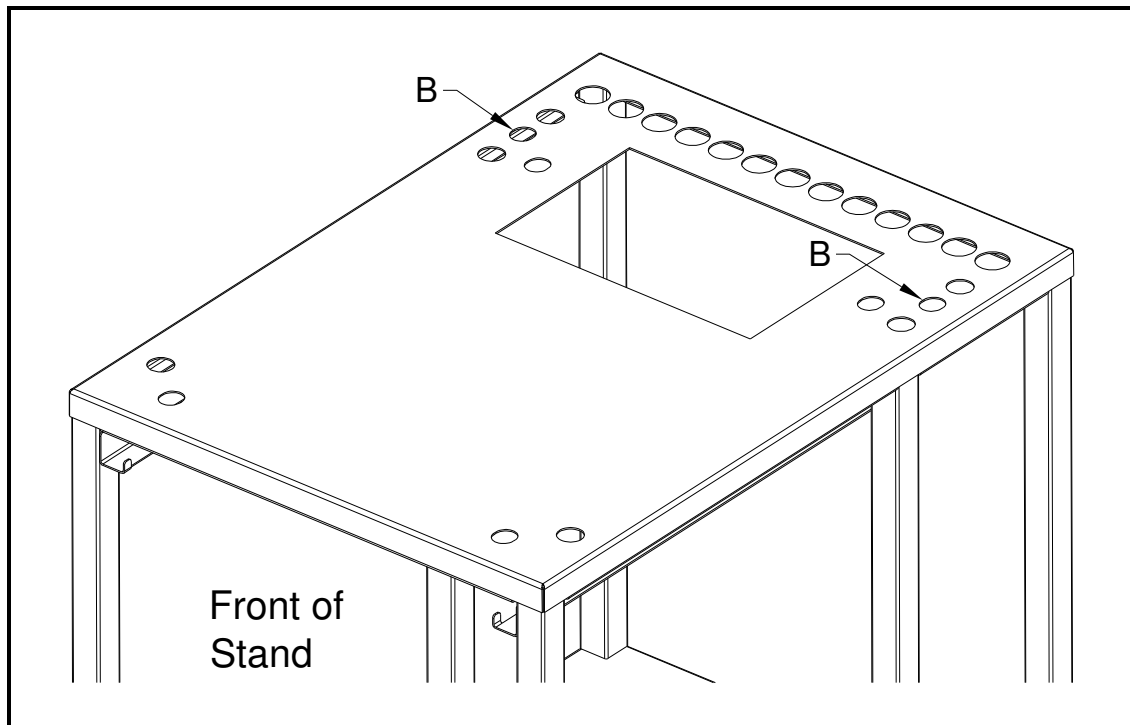
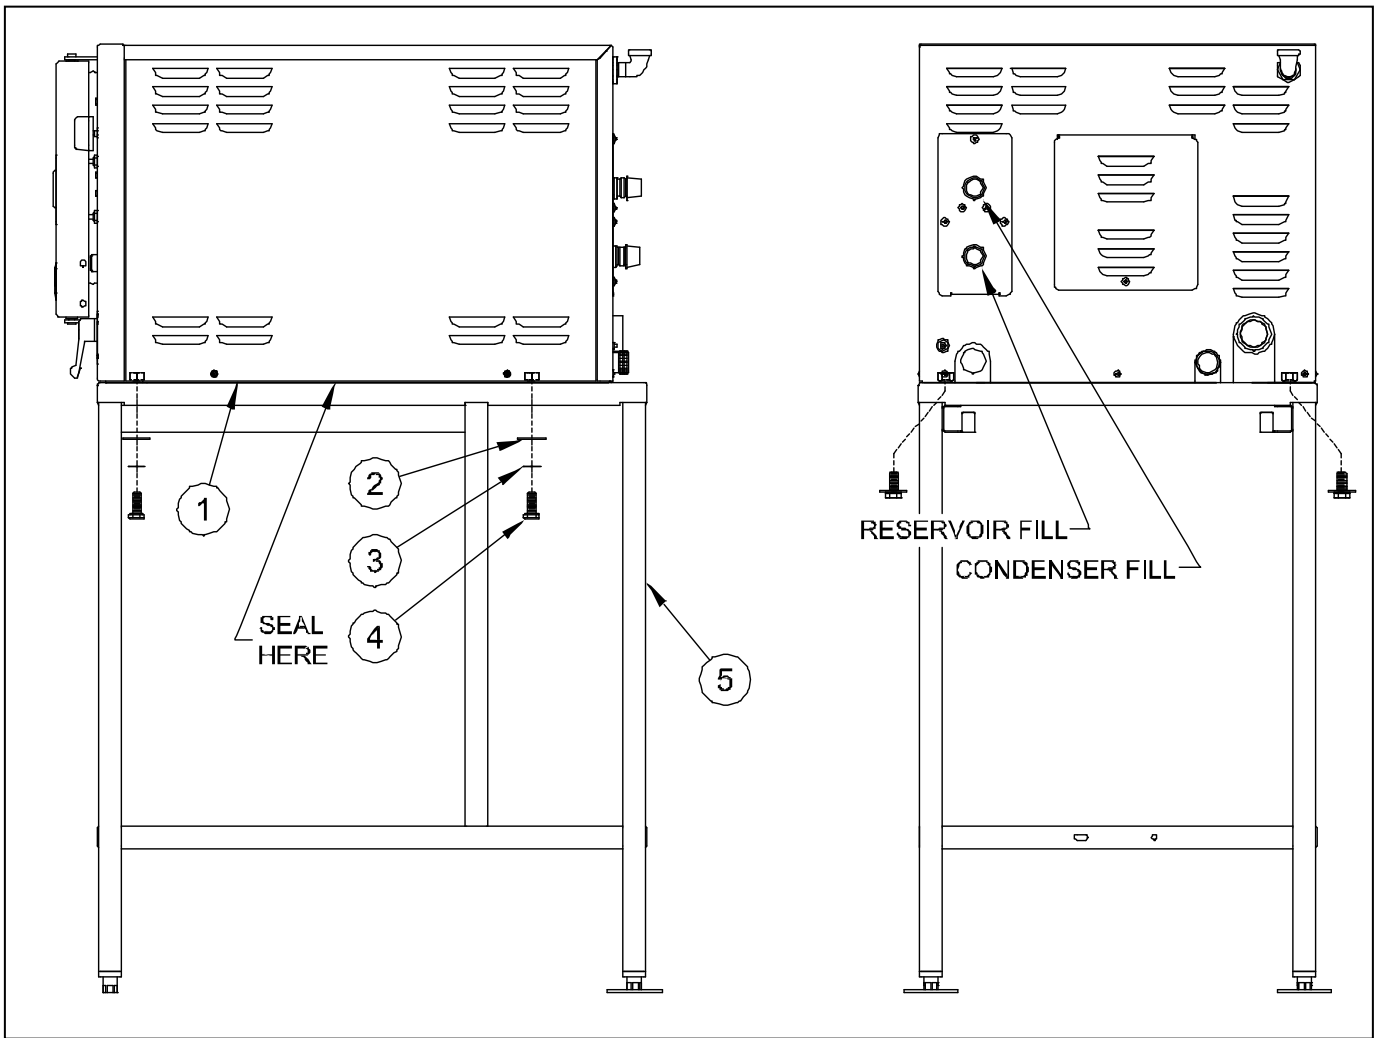

Figure 5
Figure 6
2. Set steamer directly on stand as shown in Figure 6 on the next page (4-inch legs provided with steamer are not used when installing Electric SteamChef™ steamers on a stand). Align steamer so that rear mounting bolts will come up through holes marked “B” in Figure 5 below.
3. Secure steamer to stand using 4 sets of bolts and washers provided as shown in Figure 6 (Items 2, 3 and 4) on the following page.
4. Remove control “side” side panel and seal any gaps between steamer and stand with a suitable RTV Sealant (not provided) as shown in Figure 6. Suitable RTV sealant is a Food Grade silicone sealant rated at least 250°F and Listed or Classified to the ANSI/NSF 51 or 61 Standards. Replace side panel.